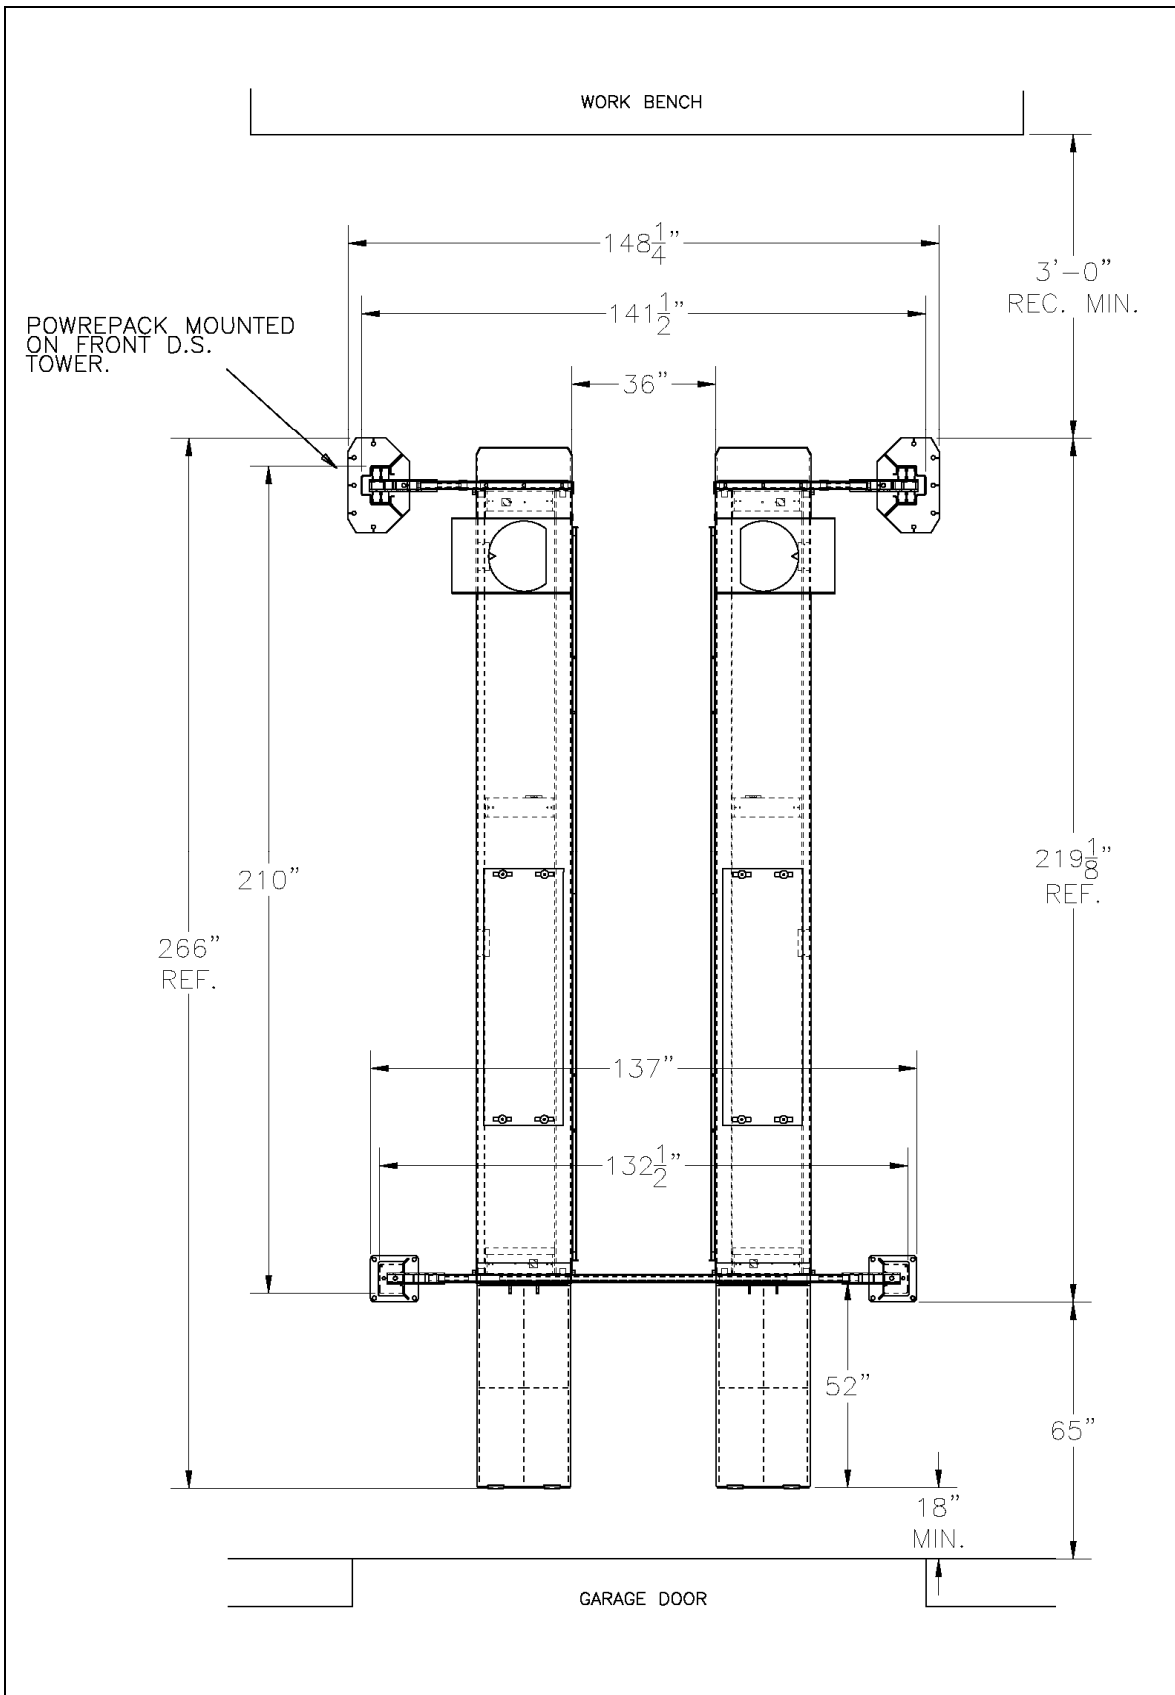
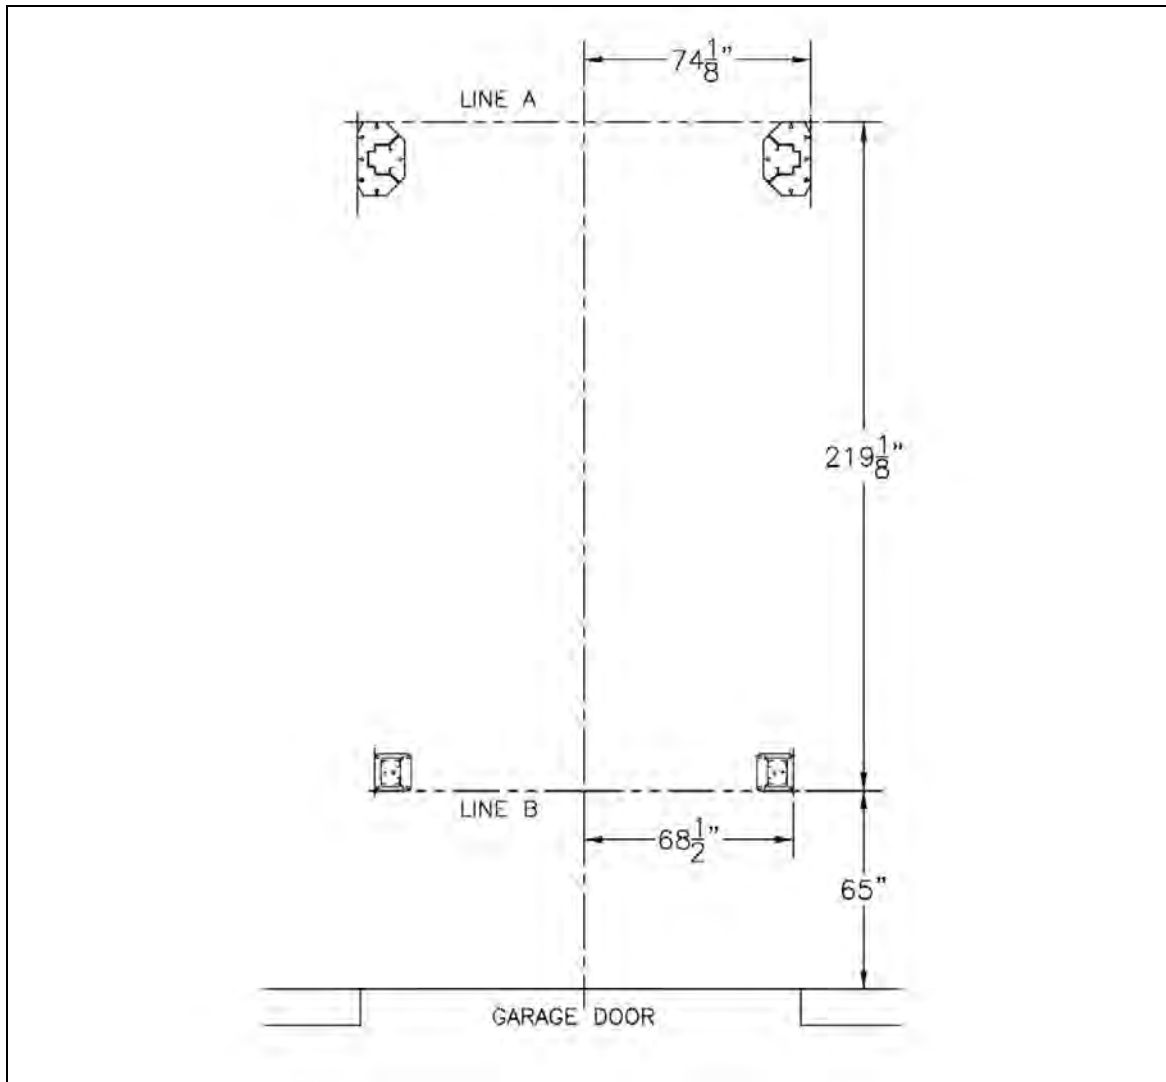

Figure 1. General lift specifications
Figure 2. Chalk line layout
- An outline matching the dimensions shown in Figure 2 will need to be marked on the floor. Refer to Figure 2 for outline dimensions. Refer to General Lift Specifications for overall lift dimensions. Figure 1.
- **Refer to Figure 2.** Make a chalk line parallel to the doorway at least $284\frac{1}{8}$ " in from the doorway. Call this line "A". This will be the location for the front face of the front posts basplate.
- Stand front towers up and position as per bay layout. See Figure 1 and Figure 2.
- Stand rear posts into position according to Figure 1 and Figure 2.
- Install the threaded stud end of the cables through the top of the post. Use a 7/8" flat washer, and two (2) 7/8"-14 UNF hex nuts with cable spacers as required, to compensate for uneven floors.